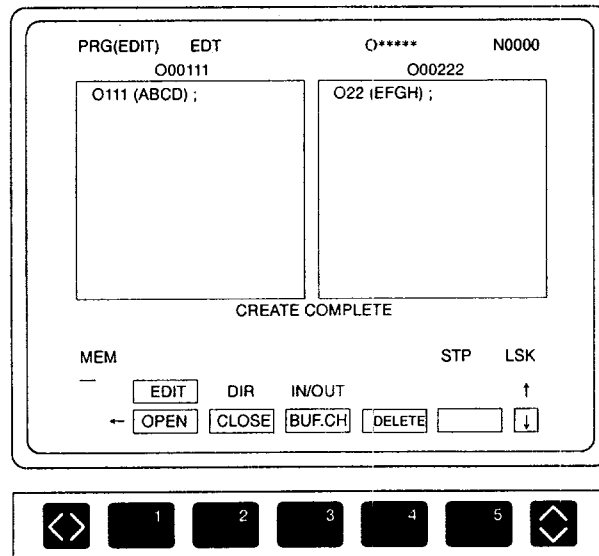

Fig. 4.2 Display Screen with Two Part Programs
Optionally, up to three part programs can be called at the same time. To call another program, press the [OPEN] (f1) function soft-key. The message "INPUT O NO." is displayed. Execute steps ③ and ④. Examples of screens where two or three part programs are called are shown in Figs. 4.2 and 4.3.